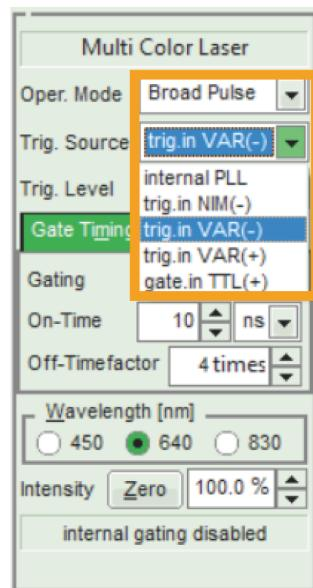

Figure 15: trigger source options
- After selecting one of the Pulse Modes, a new selection box called **Trig. Source** will appear below the mode selection box, see Fig. 15. The following trigger modes are available for the *PRIMA*: